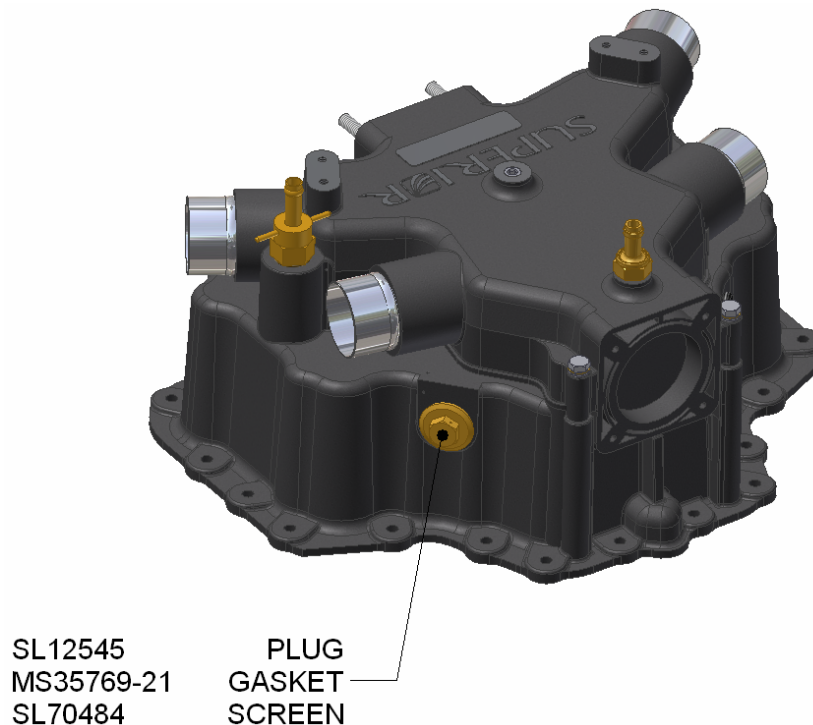

Figure 4
4. Insert Oil Suction Screen fully into Sump Assembly as shown in Figure 4 below. Insert the crush gasket onto the Oil Suction Screen Plug and install as shown in Figure 4 below. Apply a drop of oil to the threads of the plug and tighten until "finger tight" against the gasket and oil sump wall and then turn an additional 135°. Install safety wire per standard aviation practices.